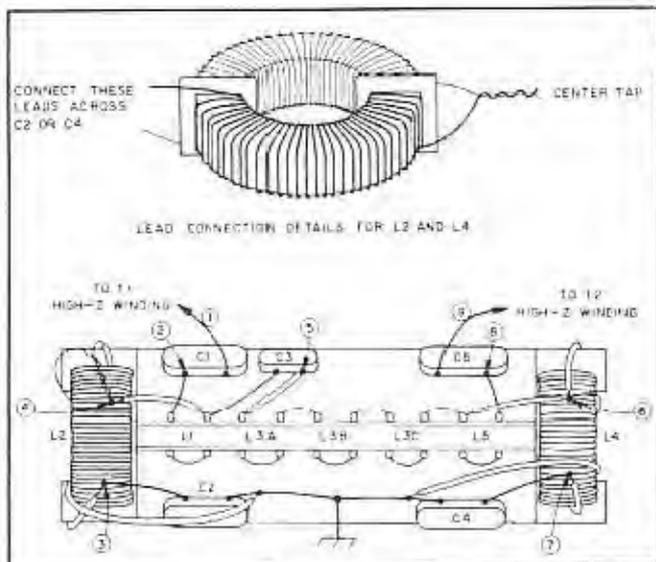
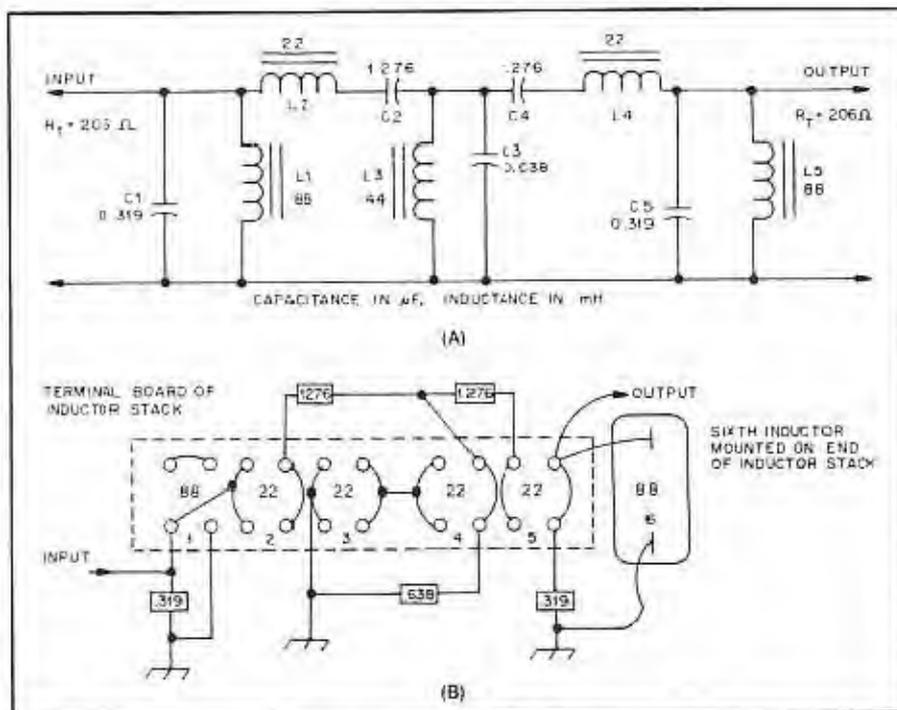
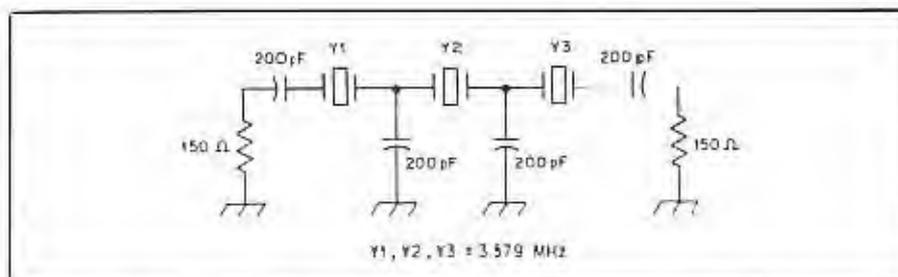
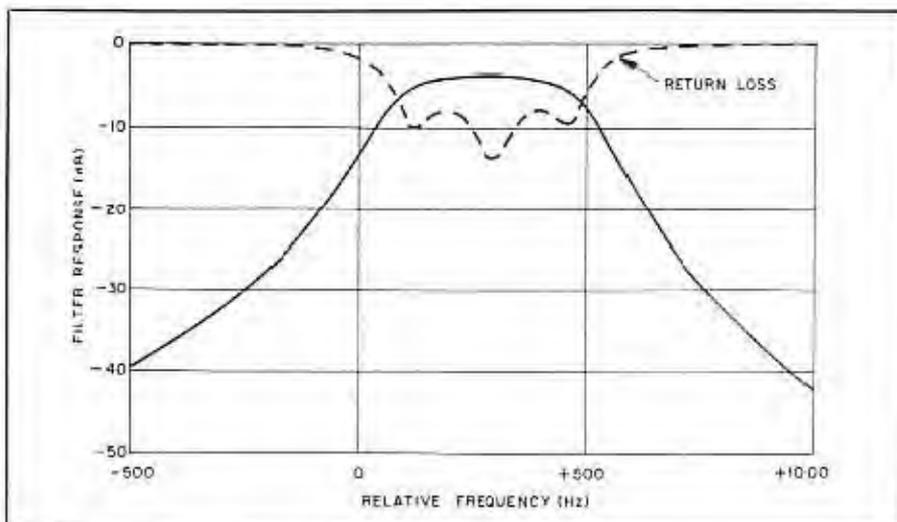

Fig 2—Pictorial diagram showing L2 and L4 lead connection and wiring of inductor stack (L1, L3, L5).
Fig 4—Schematic diagram of the SSB band-pass filter (A). Shown in B is a pictorial wiring diagram of the terminal board on the inductor stack.
Fig 2—A simple CW filter using three crystals.
Fig 3—Frequency response of the filter of Fig 2. The dots show the input return loss, indicating the quality of the impedance match.
Fig 2 is a pictorial diagram showing the filter wiring. Note the 44-mH lead connection, as well as the connections between the capacitor leads, the 88-mH stack terminals and the 44-mH inductor leads. Fig 3 shows the finished filter installed in an aluminum box. Before beginning construction, obtain one 88-mH five-inductor stack with a mounting clip and two 44-mH inductors, and then follow steps 1 to 5.
Fig 3—The assembled filter is shown installed in a CR-800 aluminum box. The thru/bypass switch (S1) and input/output transformers (T1, T2) are at the left end of the box.
winding to the finish lead (no sleeve) of the adjacent winding to make the center tap as shown in Fig 2. Do the same for the second 44-mH inductor.
3) Position the 43.5-mH inductors so their leads can be easily connected to the rest of the circuit. Solder the capacitor leads to the stack terminals as shown in Fig 2.
4) Obtain a suitable box and make holes for the inductor mounting clip, the DPDT switch, and the phone jack and phone cord. First, install matching transformers T1 and T2 and the inductor stack with capacitors. Fasten the transformers (with leads pointing up) to the bottom of the box with silicone rubber sealant. Secure the stack to the bottom of the box with a 1-3/8-inch component mounting clip and two no. 6-32  $\times$  5/16-inch screws. Instead of the 8  $\times$  3  $\times$  2 3/4-inch aluminum box shown in Fig 3 (Mouser Stock No. 537-CR-800), a small cardboard box may be used to minimize cost.
While audio filters are most often used during CW reception, the SSB operator can also benefit from their use. Shown in Figs 4 and 5 is a passive band-pass filter designed by Ed Wetherhold, W3NQN, for phone operation. This filter was described in Dec. 1979 *QST*.
A simple and practical filter for a beginner's first CW superheterodyne receiver is shown in Fig 2. Three crystals are used. The capacitors are 200-pF units, a standard value. Experimentation (done here with the computer) shows that a good filter shape is obtained with an end termination of 150 ohms. Fig 3 shows the frequency response of this filter. The -3 dB bandwidth is 403 Hz, and the insertion loss is 3.8 dB. The loss will be lower with better (higher Q) crystals. The impedance match is shown in the figure as a series of dots. This is the return loss normalized to the source impedance—150 ohms for the filter shown.
Fig 4 illustrates the effect of altering the terminating resistance. Fig 4A shows the result of 75-ohm terminations, lower than the desired 150-ohm value. The filter shows some passband ripple and a higher insertion loss. The effect of a 300-ohm termination is shown in Fig 4B, where the peak shape becomes more rounded, with degradation of skirt response. While the poorer frequency domain shape is generally less desirable, the filter with the higher termination has a significantly improved group delay; this filter would be preferred for high-speed data applications.
Fig 4—Frequency response of the filter of Fig 2 with changes in the end terminations. Curve A shows response with 150-ohm terminations; curve B shows the response using 300-ohm resistors. See the text for considerations of which is "better."